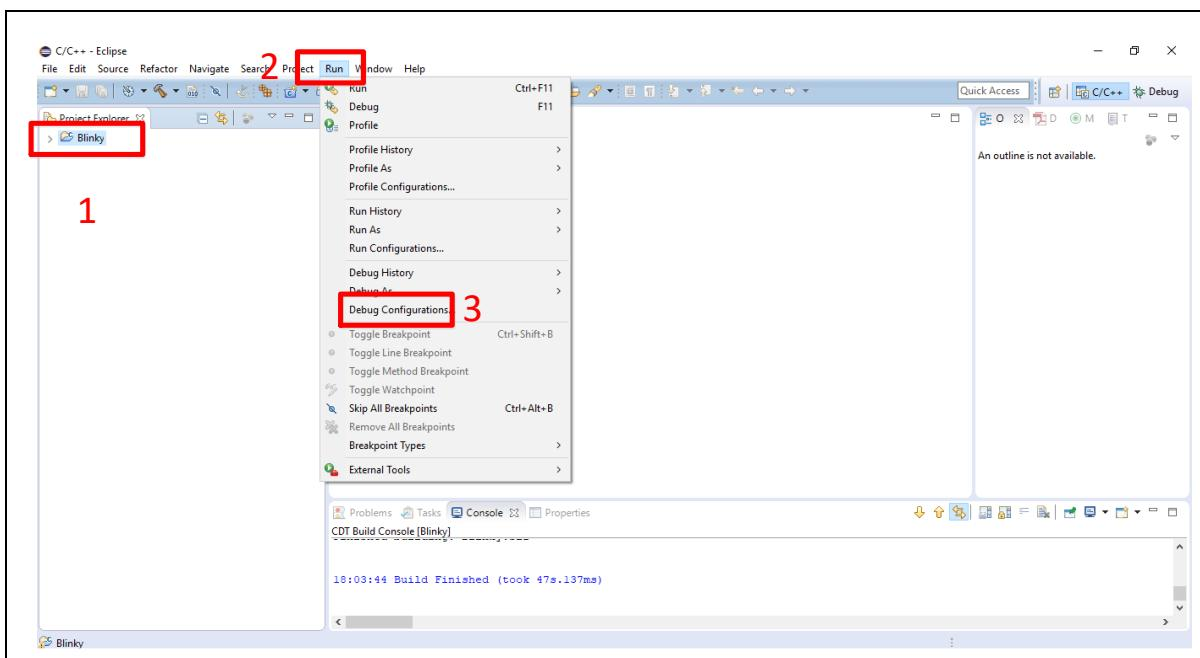
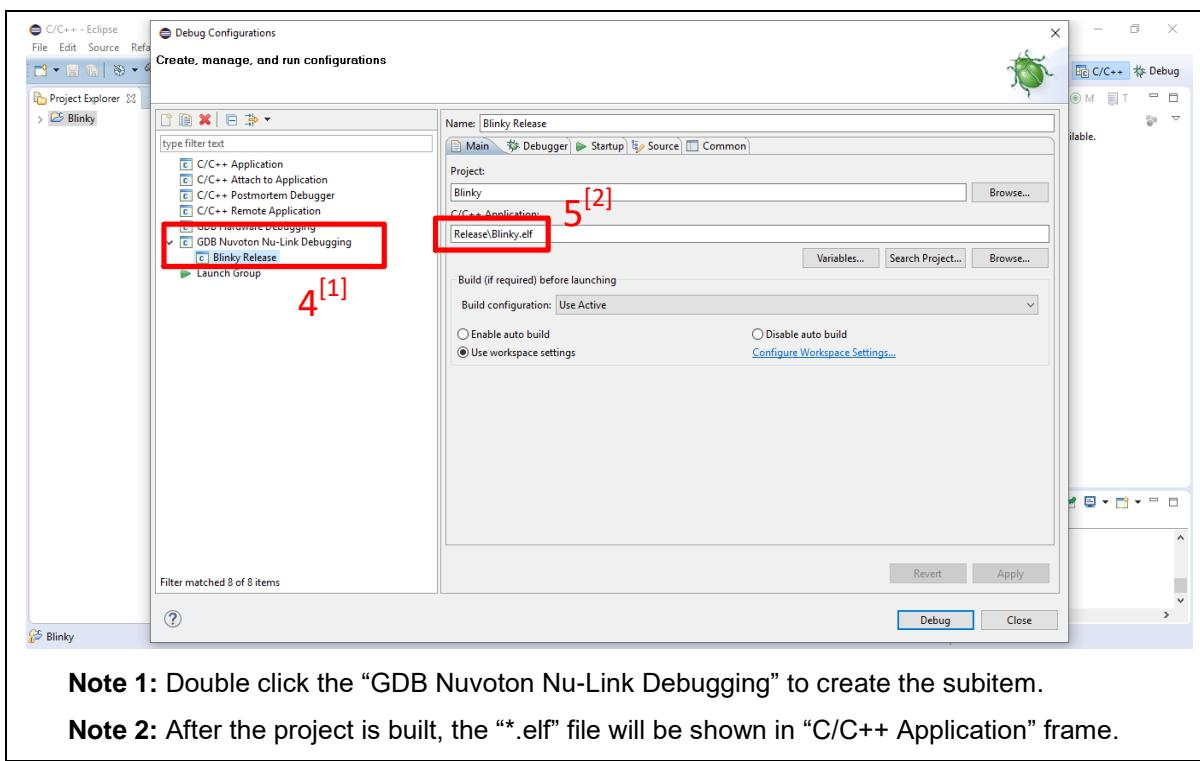
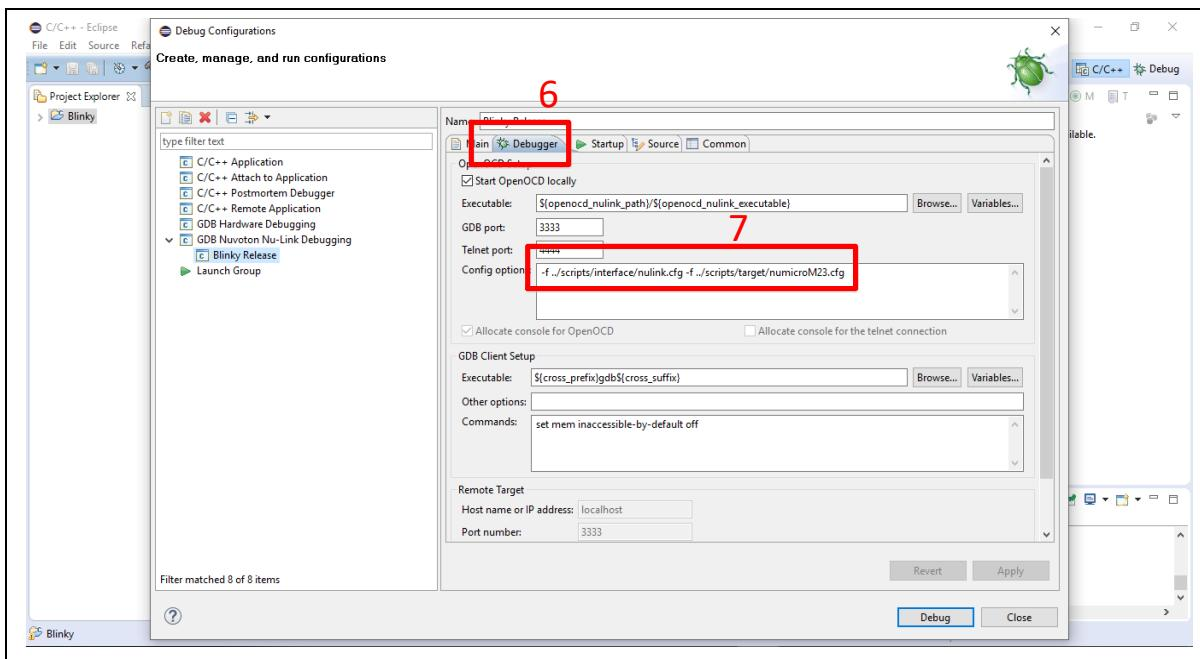
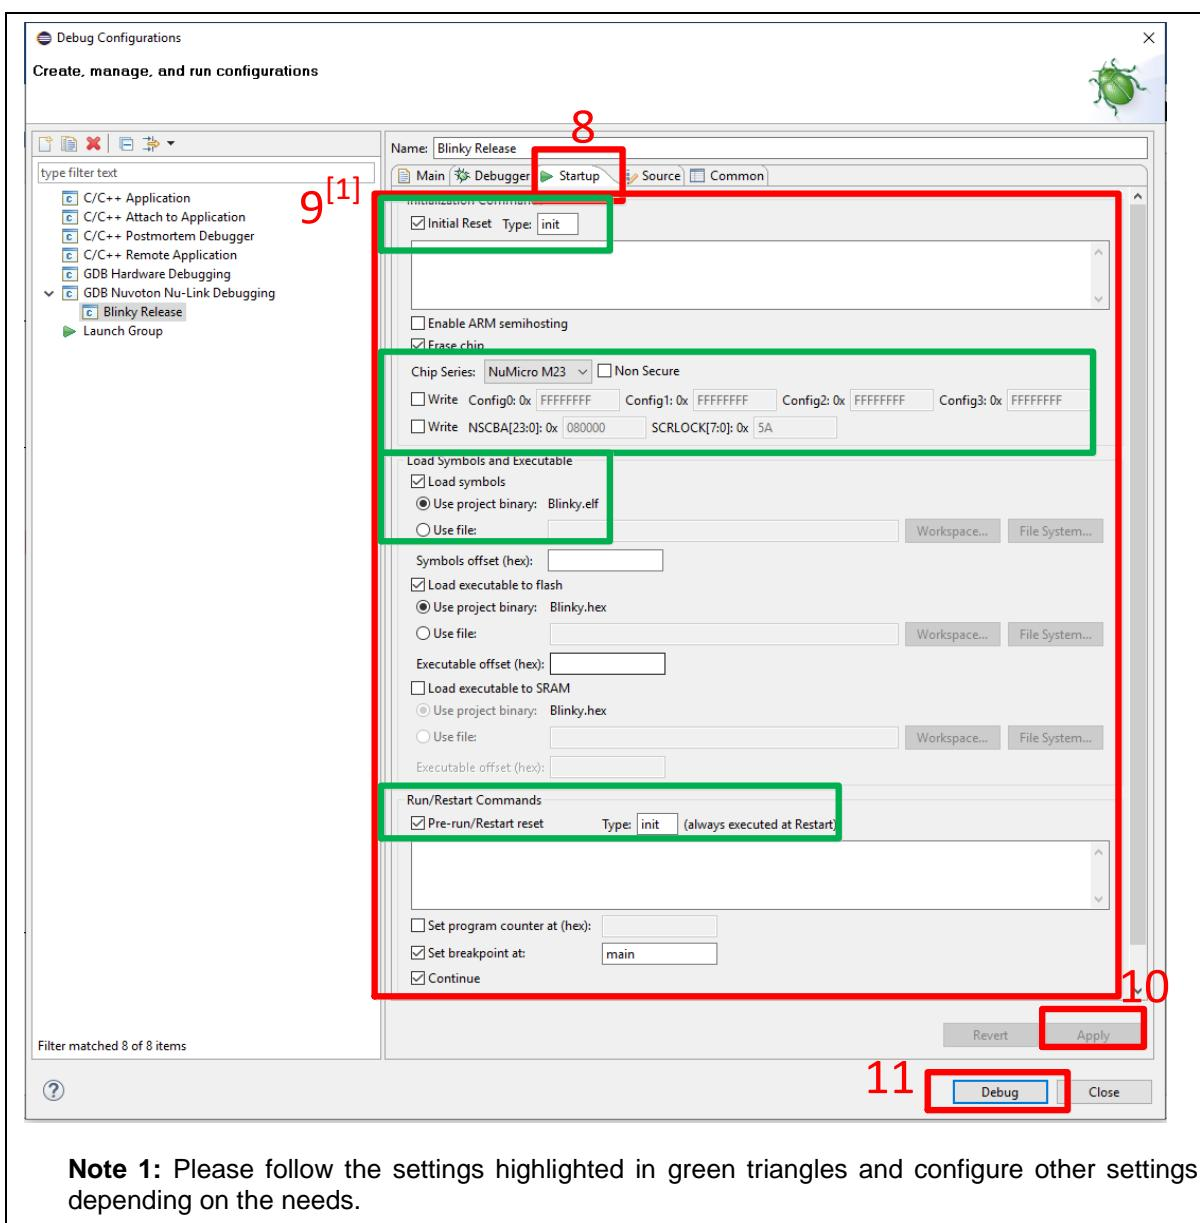

Figure 5-22 Open Debug Configuration
Figure 5-23 Main Tab Configuration
Figure 5-24 Debugger Tab Configuration
Figure 5-25 Startup Tab Configuration
5. After the project is built, click the “Blinky” project and set the “Debug Configuration” as shown in Figure 5-22. Follow the settings presented in Figure 5-23, Figure 5-24 and Figure 5-25 to enter debug mode.